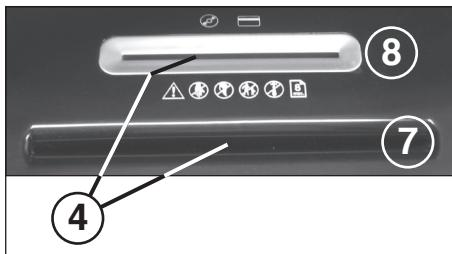

fig. 2
- 4 = Light barrier (forwards running) (fig. 2)
- 7 = Paper feed slot (fig. 2)
- 8 = Safety feed slot (fig. 2)
Feed paper into the cutting mechanism through the paper feed slot (7) (Fig. 2). Feed data carriers (CD, DVD or credit card) into the cutting mechanism individually into the separate safety feed slot (8) (Fig. 2). The machine automatically switches to forwards running, draws the material in and automatically switches off after shredding.